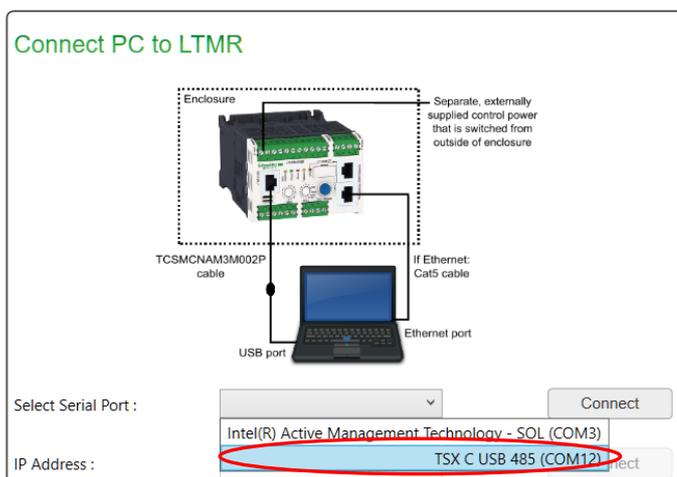
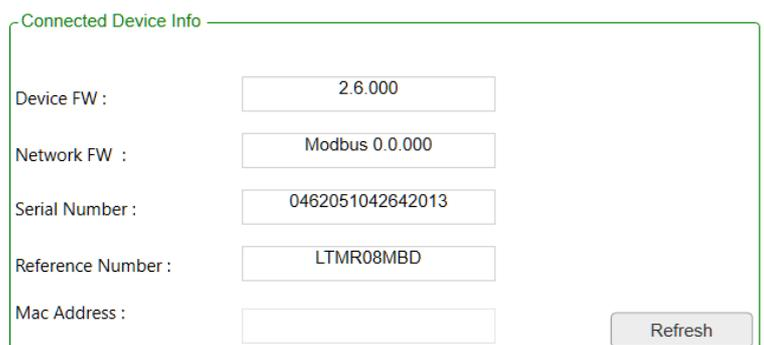

Figure 5
Figure 6
2. From the pull-down menu located underneath the Tesys T graphic, as in Figure 5, select the COM port for the “TSX C USB 485”. In this example, it is COM 12. Click on the “Connect” button to connect to the Tesys T. Once connected, the “Connected Device Info” fields will populate, as in Figure 6.